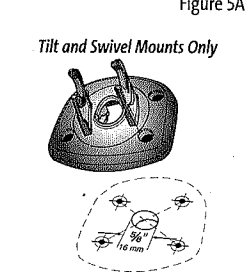

Figure 5B
- 1a. Mark and drill a 3/8" hole centered between the four mounting holes as shown in Figure 5B. Route the cables through the hole. The cables will exit through the center hole on the base of the Tilt and Swivel Mount.